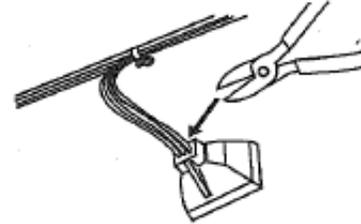

FIGURE 5
8. Cut the connector from the harness that was connected to the failed pump as close to the connector as possible. See figure 5.